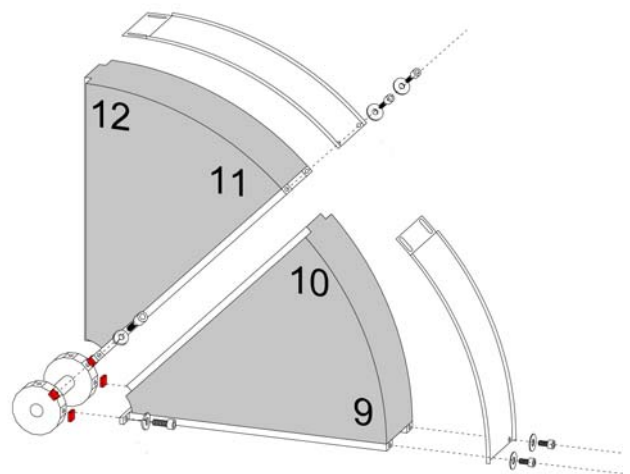

Figure 7
- During the assembly of the segments be sure to keep track of the numbering (segments are numbered in order, see Figure 7).
- To each new inserted segment, also attach an **circumferential panel** with M10x30 socket screws. Do not forget washers! **Screw in the screws only about half way!** Refer to Figure 7, 8, 9 and 10.